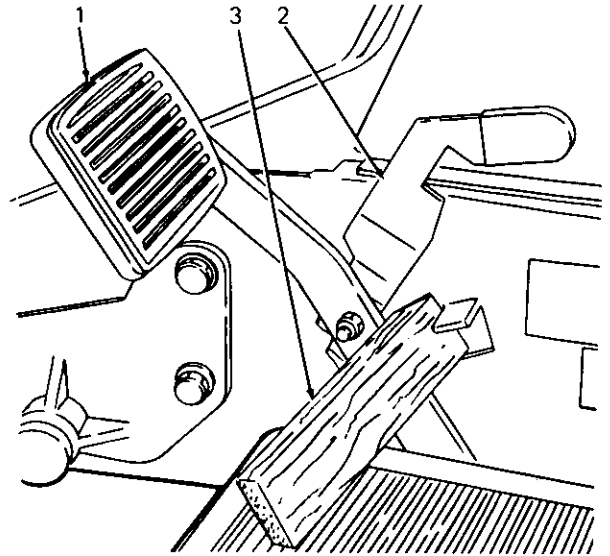

Figure 19
1. To check brake adjustment, place a 1 inch thick wood block between the single brake pedal and the brake pedal lock (see Figure 19).
2. Place a 1 inch thick wood block between the single brake pedal and the brake pedal lock (see Figure 19).